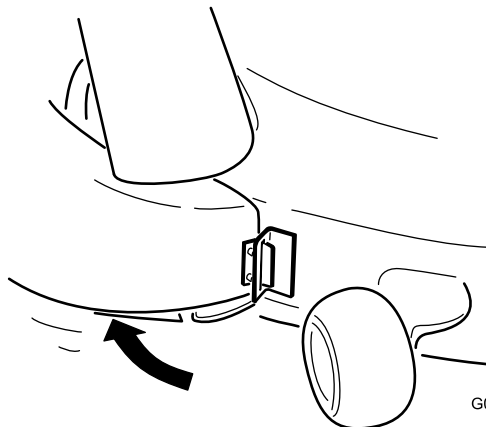

Figure 22
2. Pivot the chute back and toward the deck so chute is flush with the mower deck (Figure 22).